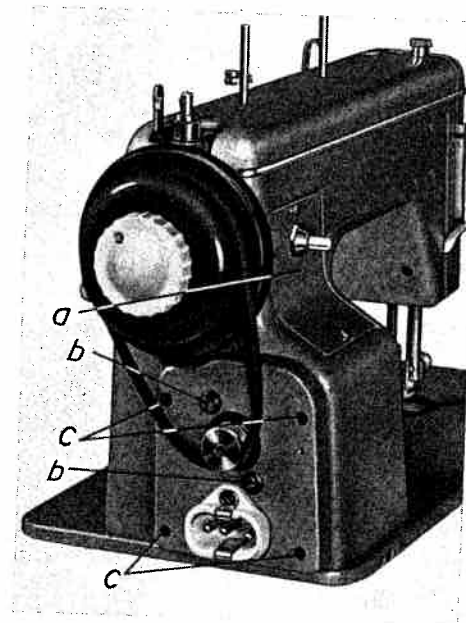

Fig. 20
Fig. 20 shows Motor Housing with Guard removed.
- b) Loosen the two screws *b* which are now visible – see Fig. 20.
- b) Take out the 4 screws *c* in motor end shield plate – see Fig. 20.
The motor, complete with plate, can now be drawn from the motor housing, to give free access to the carbon brushes – see Fig. 20.